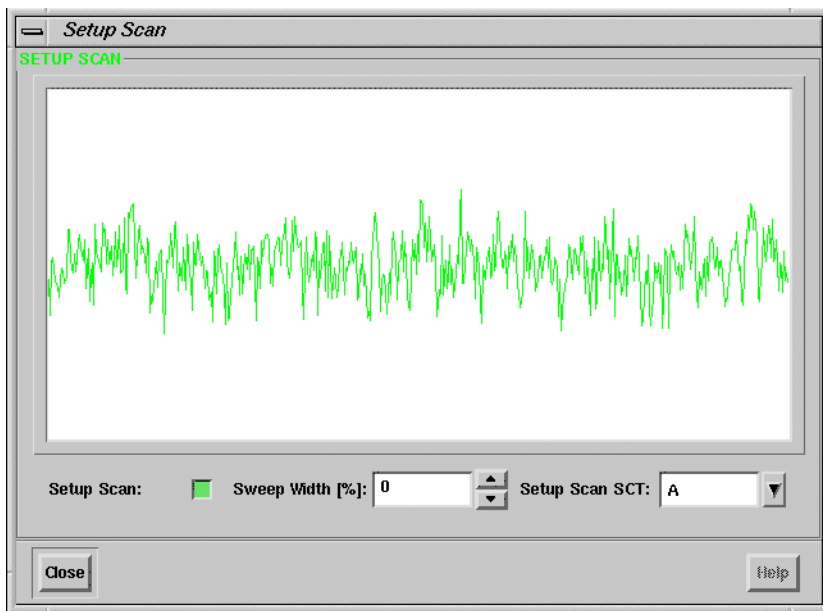

Figure 7-27 A Setup Scan of a noise trace used to adjust the AFC gain.
6. **Activate the Setup Scan function.** Click the Setup Scan button in the Setup Scan window. Set the Sweep Width to 0. (See Figure 7-27.)
the window and the noise is easily visible. (See Figure 7-27.)